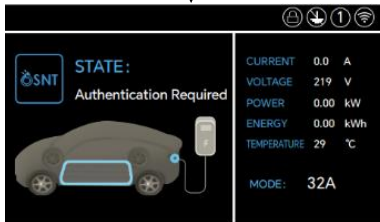

Fig.13
- 2) Swipe the authorized RFID card to start charging, as shown in Fig.13